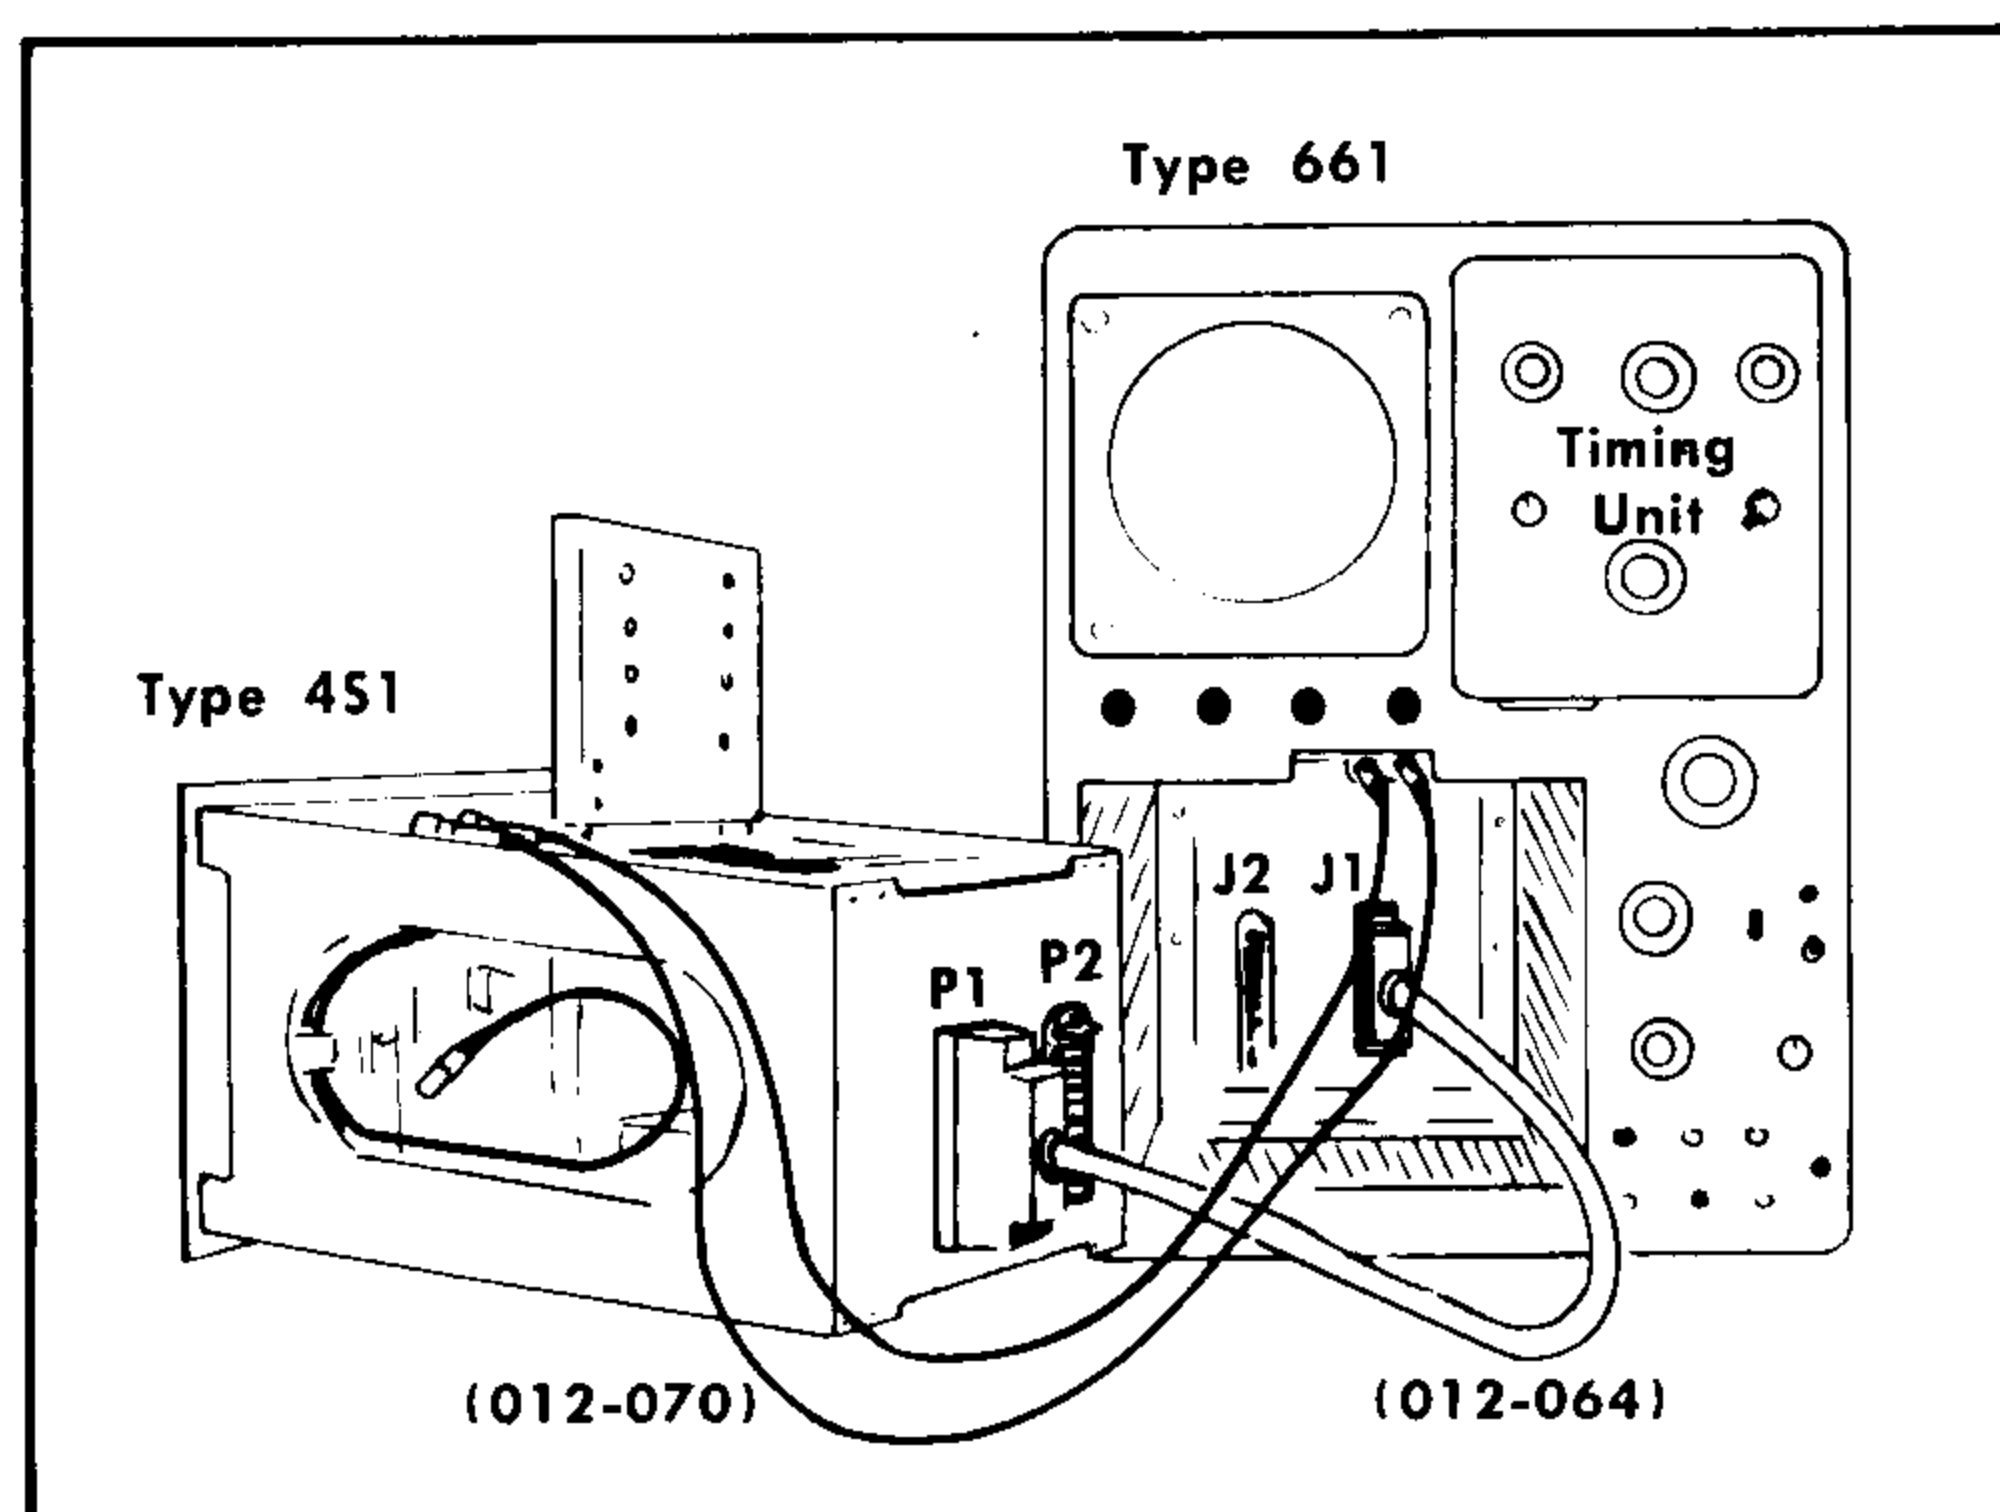

Fig. 5-1. Connections for operating the Type 451 outside the oscilloscope during calibration.
Connect the Type 451 to the Type 661 Oscilloscope with the cables listed above (equipment items 8 and 9). See Fig. 5-1. No cable is required for the readout connector. Extend the AC Amplifier subchassis from the Type 451 with the 22-